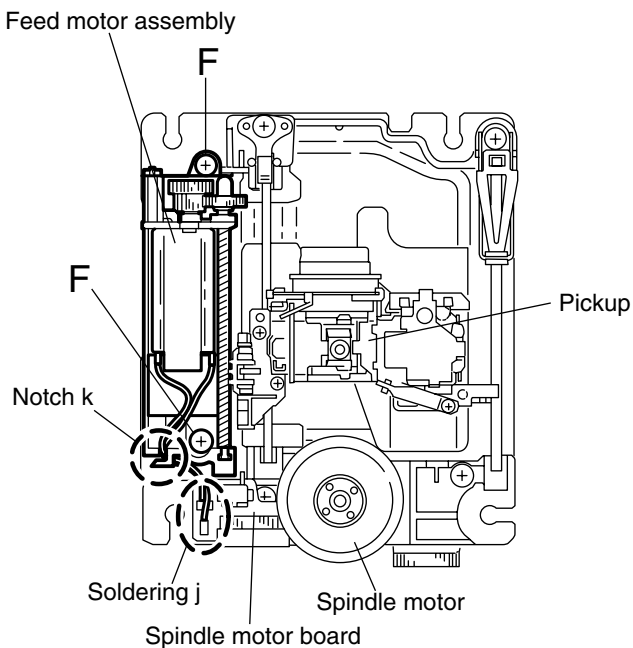

Fig.13
### ■ Removing the feed motor assembly (See Fig.13)
### ■ Removing the feed motor (See Fig.13 to 15)
**ATTENTION:** When reattaching, pass the two cables extending from the feed motor through the notch **k** of the feed holder as shown in Fig.13.